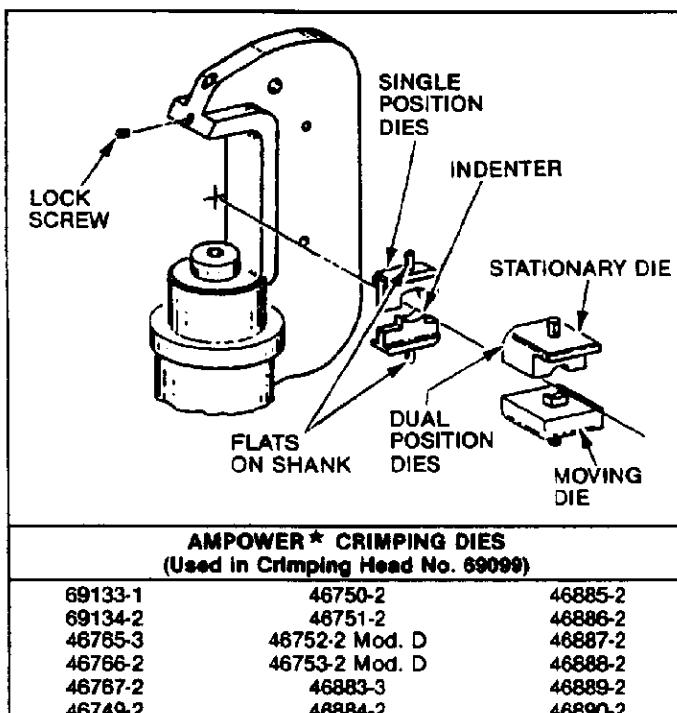
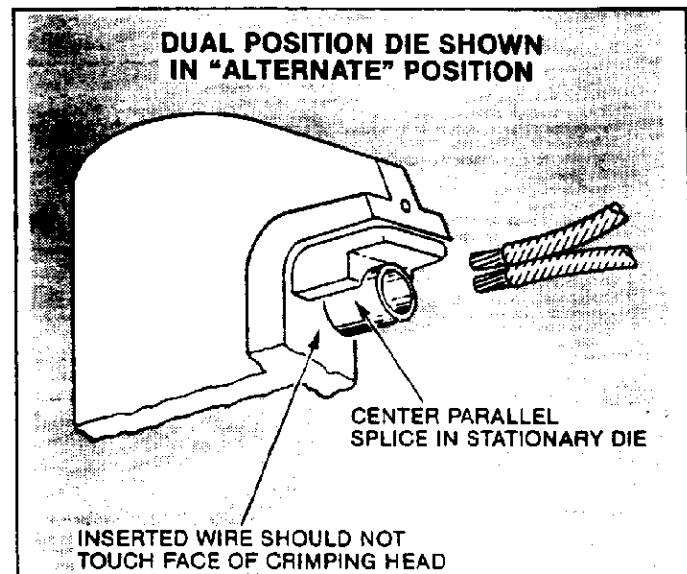

Fig. I-1
Fig. I-4
This instruction sheet (IS) covers application and maintenance procedures for the AMPOWER crimping dies listed in Figure I-1.
The AMPOWER die assemblies listed in Figure I-1 are used to crimp AMPOWER terminals and splices of the wire sizes indicated in Figure I-2.
[†] MCM EQUALS THOUSAND CIRCULAR MILS[‡] NON-REVERSIBLE DIES. ALWAYS INSTALL INDETER IN RAM. SEE FIGURE I-1.
2. Loosen lock screw in top of crimping head. See Figure I-1.
Ensure that dies are inserted FULLY and that flats on shanks are facing lock screws. See Figure I-1.
Typical single and dual position die sets are shown in normal crimping position in Figure I-1. The dual position dies are used in alternate position only for parallel splice applications as shown in Figure I-4.
NOTE When "alternate" position of dual position dies is being used to crimp parallel splices, ensure that the end of the inserted wire does not touch or bind against face of crimping head. See Figure I-4.